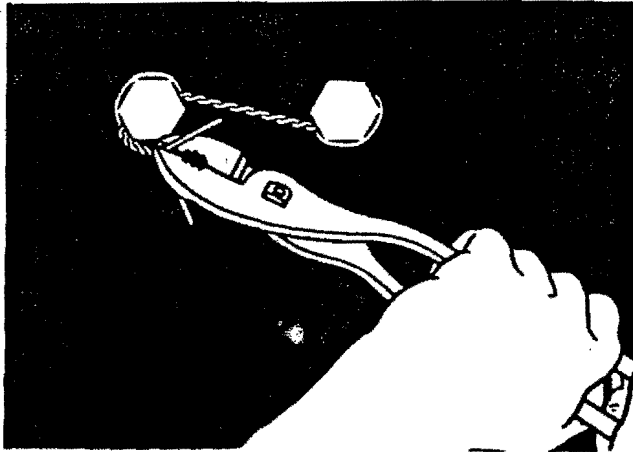

Figure 7-9. Ends Twisted
h. Grasping the ends of the wire beyond the twist with the pliers and keeping the wires under tension, twist them tight in a counterclockwise direction. With the final twisting motion of the pliers, bend the twisted wire ends to the right around the head of second bolt [Figure 7-9].